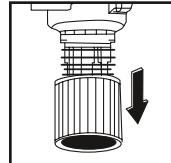

Fig. 6
2. Hold and pull the filter cartridge to remove it (Fig. 6)